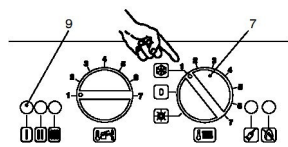

Fig. 2.7
3. If the boiler is to be used for C.h. and D.h.w position the function selector 1.2 as in Fig. 2.7 The appliance operation light 1.2 will flash every 2 seconds (operating boiler).